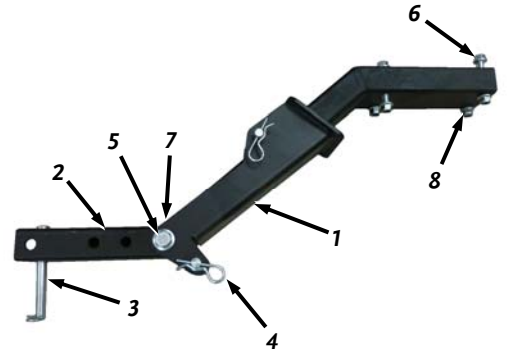
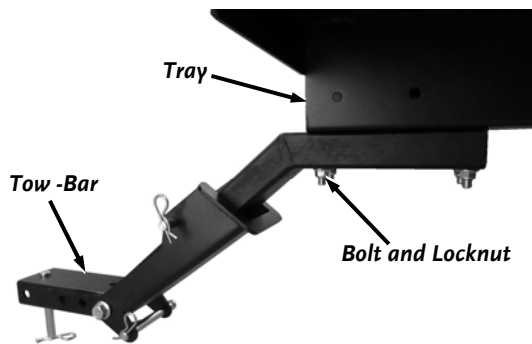

Figure 1
Figure 3
Parts Supplied (Figure 1):
1. Remove the Bolts (item # 6) and Locknuts (item #8) from the Tow Bar (Figure 1).
3. Install four 2.5" Bolts (item # 6 in figure 1) and Locknuts (item #8) through the Tray and Tow-Bar and tighten using two 9/16" Wrenches (Figure 3).